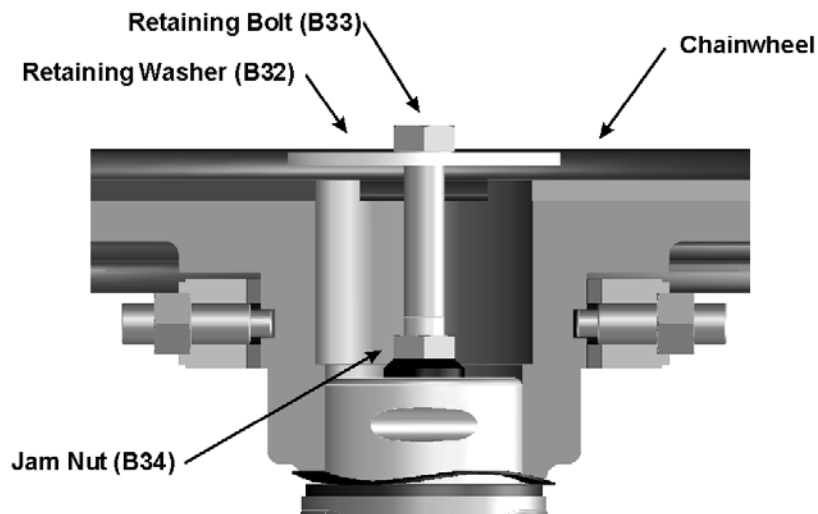

FIGURE 2—Detailed View of Chainwheel Retaining Components
7. As shown in Figure 2, insert the large hex-head retaining bolt (B33) through the 2.5-inch retaining washer (B32) and stake the washer to the head of the bolt. This keeps the washer from sliding down the shaft of the bolt when the valve is open (when the stem is extended upward).